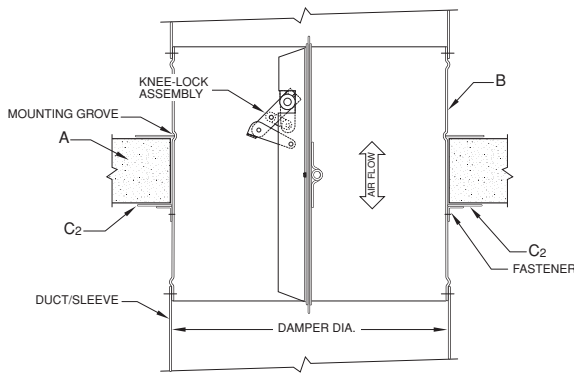
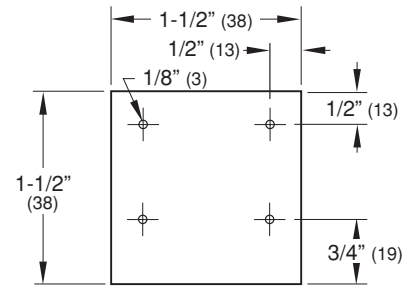
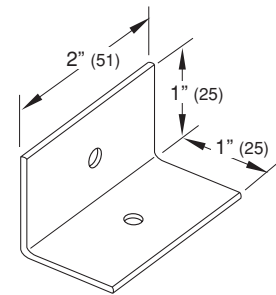

Figure 1a
Figure 5
Figure 8
- A.** Concrete or masonry fire partition shown in figure 1a and 1b. Wood or steel stud fire partition shown in figure 2. See Wood Stud and/or Steel Stud Framing for Fire Dampers In Drywall and/or Cavity Shaftwall Partitions Supplemental Installation Instructions for further vertical installation details. The square or round opening shall be a minimum ¼" (6) larger than the damper sleeve/frame. Damper must be installed with the leading edge of the closed blade within the partition. For mounting angles that are up to and including 1-½" high, the opening shall be a maximum of ¾" (19) larger than the overall damper and sleeve assembly. When openings are larger than ¾" (19), but less than 6" (152) the mounting angles must be a minimum of 16 gauge (1.5) and must be tall enough to overlap the opening by a minimum of 1" (25).
- B.** The connecting duct shall not be continuous, and shall terminate at the sleeve/frame using one or more of commonly used break away style connections. Refer to Sleeve Termination Supplemental Installation Instructions for further details. Damper sleeve shall not extend more than 16" (406) beyond the rated partition on the actuator side. The opposite side extension shall be a maximum of 6" (152) unless an access door is installed in the sleeve which then permits the extension to be a maximum of 16" (406).
- C1.** Single Sided angles: The holding plate mounting groove (on operator side) of the damper must be flush with the wall. Set the holding plate (see figure 3 & 4) into the mounting groove. Secure the plate with joiner clips (see figure 5) using four ⅛" (3) minimum rivets, #10 (M5) sheet metal screws, bolts or welds per joiner clip. The holding plate shall be attached at each corner to the rated partition with #10 (M5) screws, bolts or ⅛" (3) rivets.
- C2.** As a further option for round opening the holding plate may be replaced by 1-½" x 1-½" x 20 GA. (38 x 38 x 1) minimum angle rings. The ring shall be fastened to the damper sleeve and the partition at 8" (3) on center maximum with a minimum of 3 fasteners using #10 (M5) sheet metal screws, bolts, masonry anchors, ⅛" (3) diameter rivets or welds.
- C3.** Dual sided angles: the holding plate mounting groove (on operator side) of damper sleeve must be flush with wall. Seat the holding plate (see figures 3 & 4) into the mounting groove on operator side of damper. Then place the plate until it touches partition. Secure both plates with joiner clips (see figure 5) using four ⅛" (3) minimum rivets, #10 (M5) sheet metal screws, bolts or welds per joiner clip. A minimum of 3 clips angles (see figure 8) shall be arranged symmetrically around the damper and fastened to the damper sleeve on the guide plate side of the partition and on in contact the guide plate. Fasteners shall be #10 (M5) screws, bolts, ⅛" (5) rivets or welds.